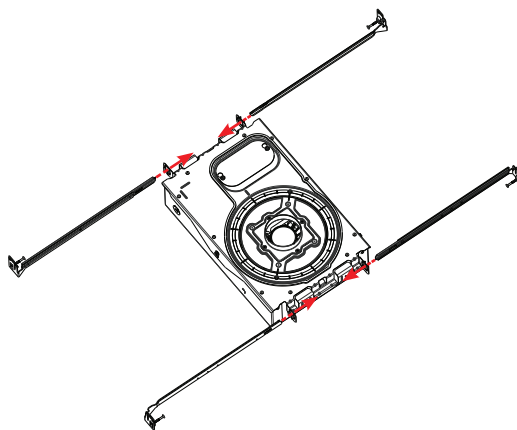

fig. 11
- b. Insert the hanger bars through the tab openings (note orientation in fig. 11).